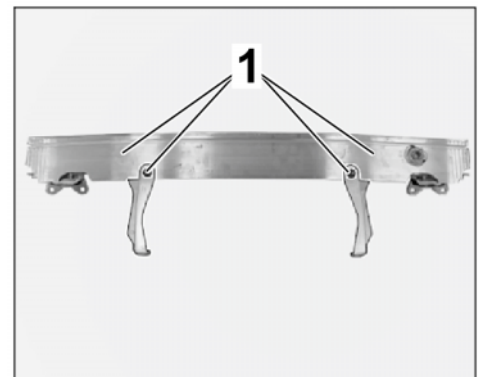

Figure 3
- 2.4.1 Screw left and right holders to the bumper using two nuts on each side ⇒ *Figure 3 -1-*